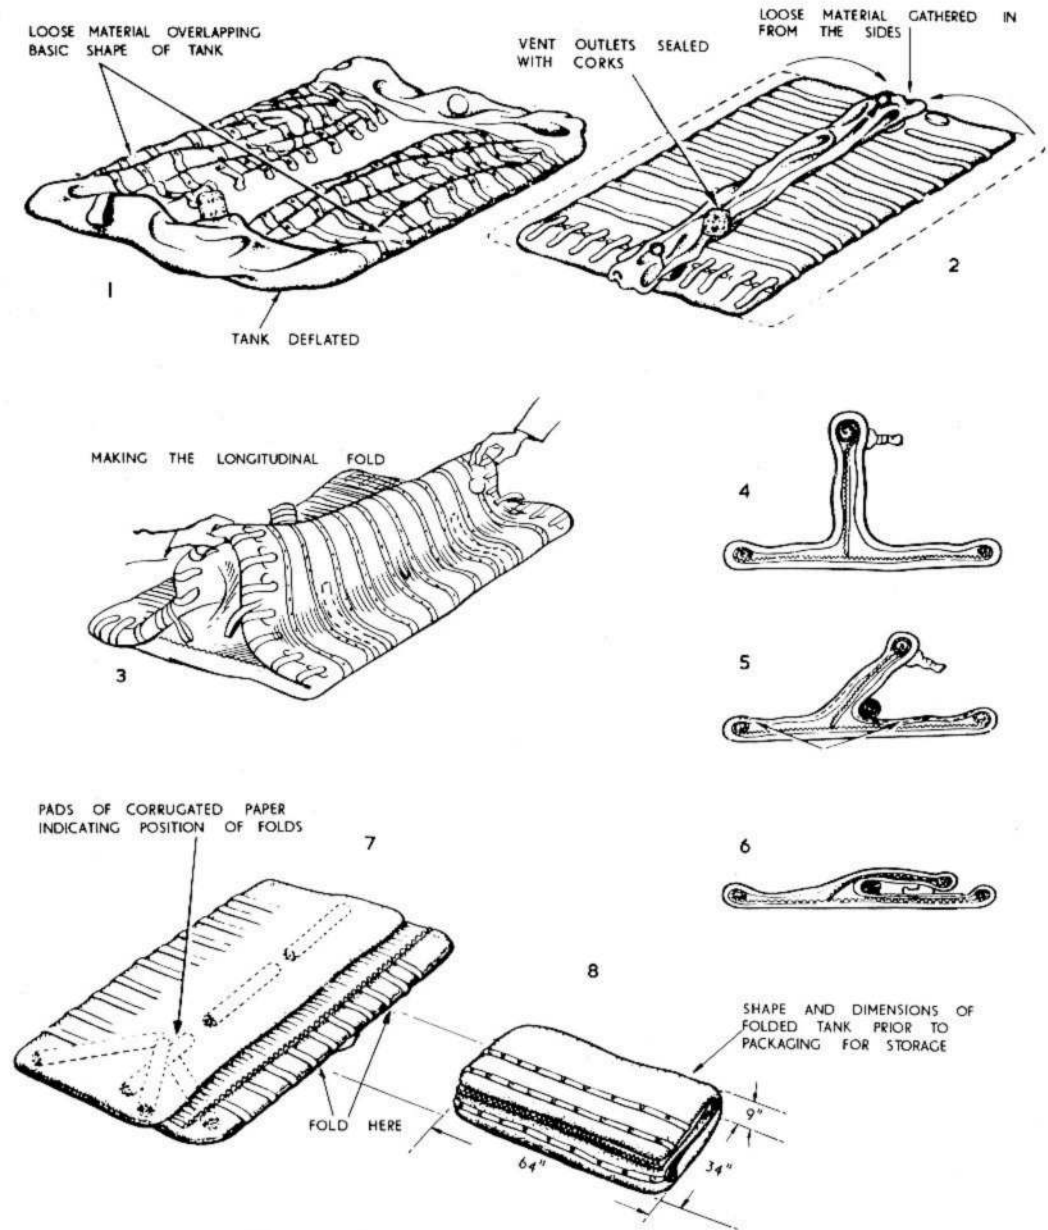

Fig. 14. Folding No.5 tank for storage
64. Extreme care must be taken when folding or handling the tank to prevent damage to the material. Refer to fig. 14 for the sequence of operations for folding the tank and proceed as follows:-